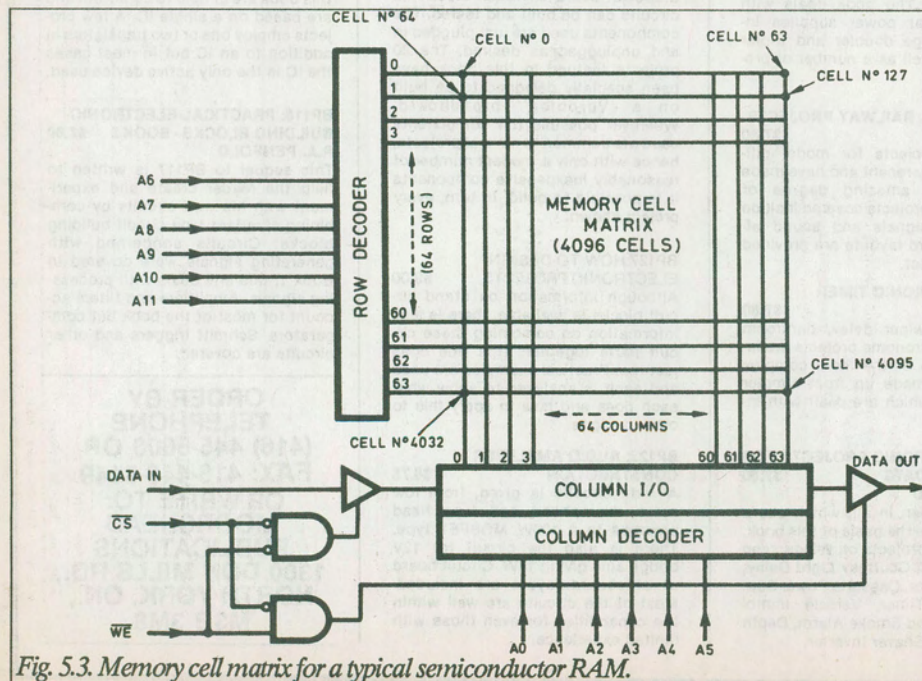

Fig. 5.3. Memory cell matrix for a typical semiconductor RAM.
Each location within a semiconductor memory, whether it be ROM or RAM, comprises a "cell" at which a single bit of data (either a 1 or a 0) is stored. The memory cell matrix for a semiconductor RAM is shown in Fig. 5.3. The matrix comprises 64 rows and 64 columns and thus has a total of  $(64 \times 64) = 4096$  individual cells.
Fig. 5.3 also shows how data is transferred into and out of the memory cell matrix (by means of the column I/O) and how the active-low chips select (CS) and write enable (WE) lines are connected.